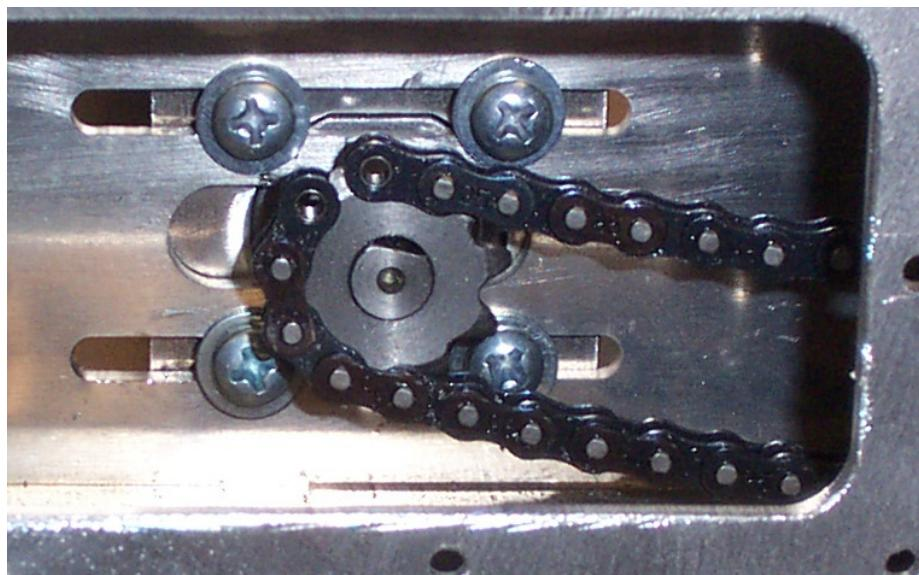

Figure 27: Chain Layout
4. With the motor in its approximate middle position, measure out the required length of chain. Refer to Figure 27. You will want full links as shown in the figure to insert the master link through. You will be removing the outer cross-links.